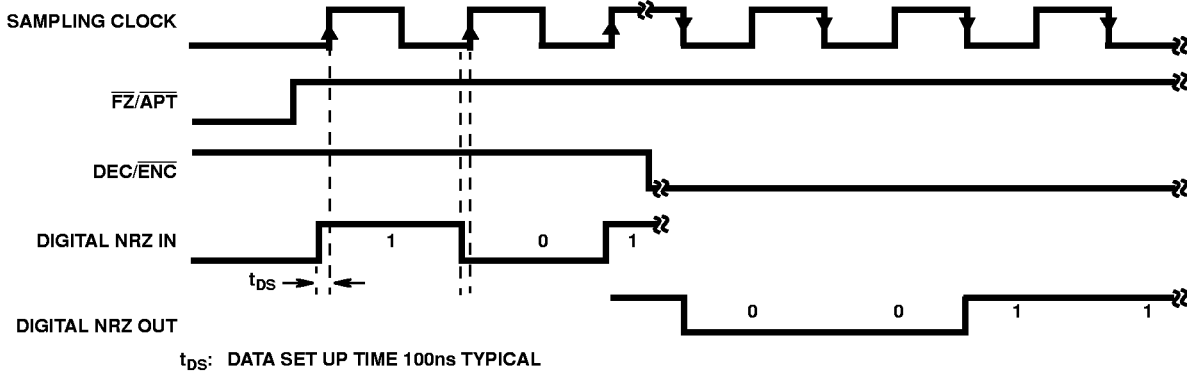

FIGURE 2. CVSD TIMING DIAGRAM
2. There is one NRZ (Non-Return Zero) data bit per clock period. Data is clocked out on the negative clock edge. Data is clocked into the CVSD on the positive going edge (see Figure 2). Clock may be run at less than 9kbps and greater than 64kbps.